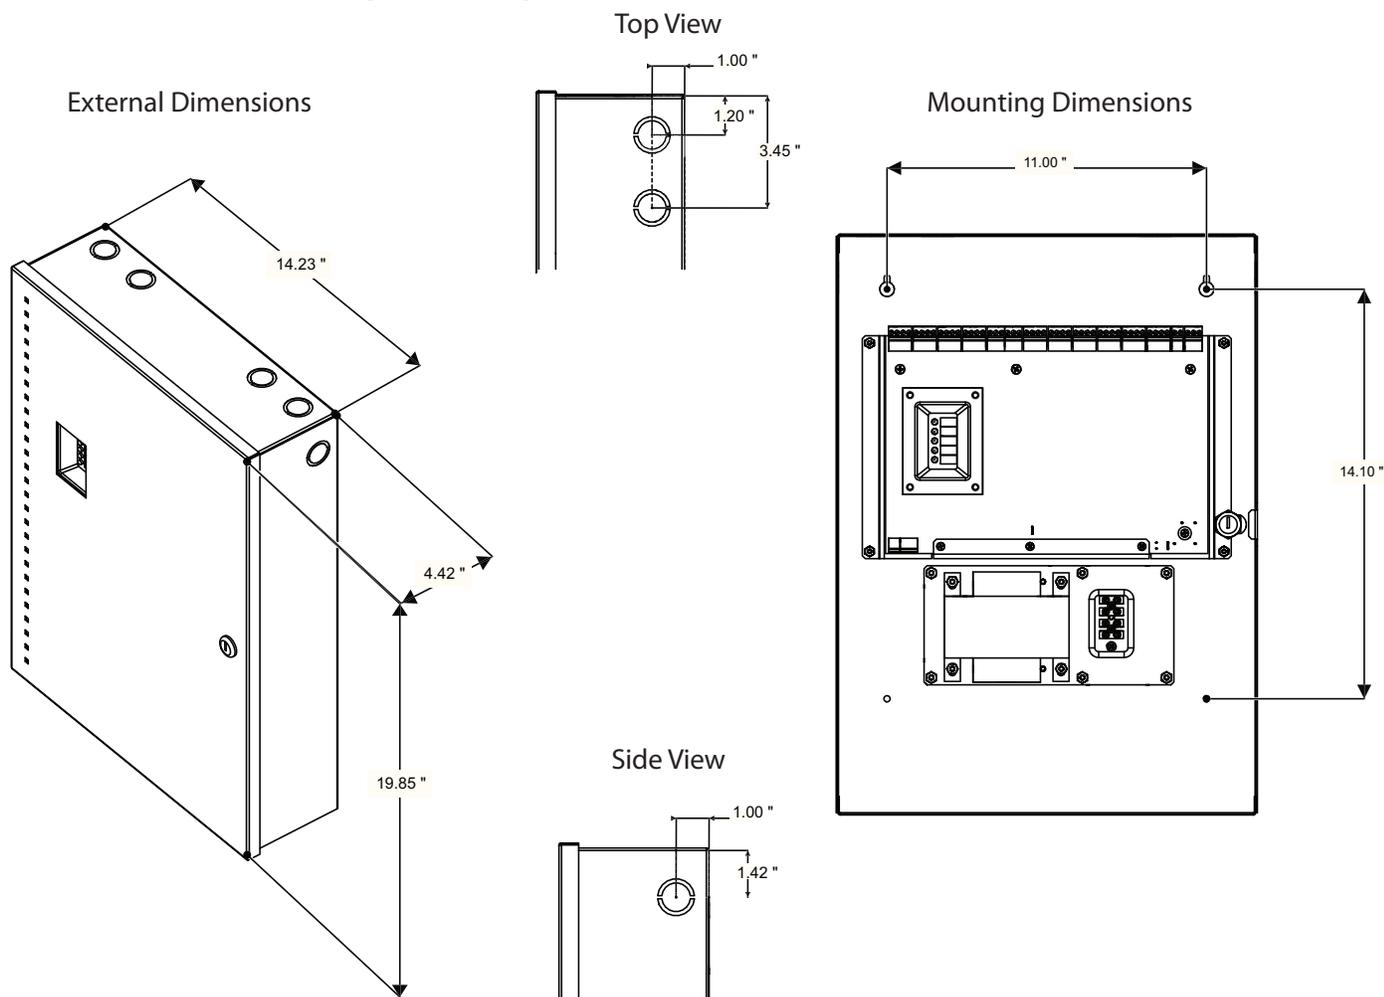
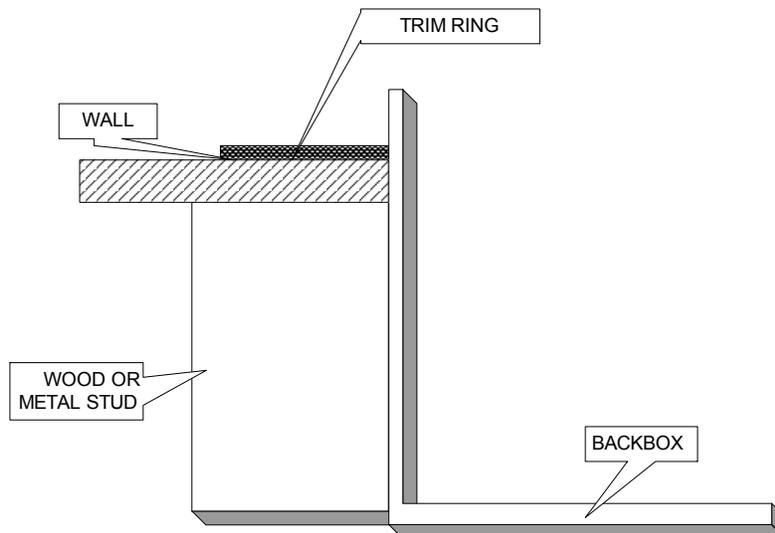

Figure 3 INX-10A Dimensions
Figure 5 Flush mounting the enclosure
The INX-10A can be surface mounted with four screws as shown in Figure 3 or flush mounted as shown in Figure 5 on page 18.
1. Using the INX-10A back plate as a template, mark the top of the two mounting hole locations 11" apart as shown in Figure 3.
Note: Figure 3 shows a cross-section of the semi-flush mounted backbox and the trim ring. Allow a minimum depth of 1" above the wall surface for proper door opening.